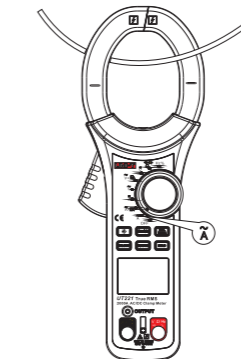

Figure 10
8. AC current measurement (A) (See Figure 10)